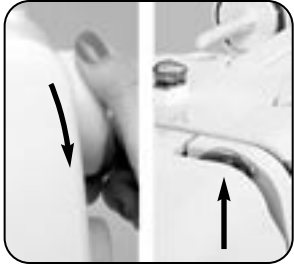

Fig. 1
1. Turn the handwheel toward you to raise the take-up lever to its highest position [Fig. 1].